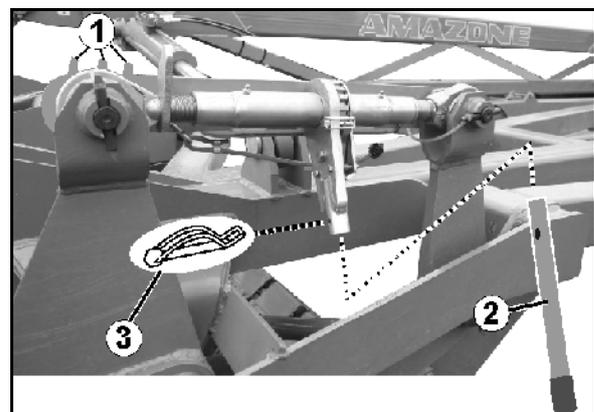

Fig. 57
### **Centaur Super**, Fig. 57
The scale (Fig. 57/1) helps you to set the spindles to the same length.
2. Secure the hand lever (Fig. 57/2) with lynch pin (Fig. 57) to the ratchet (Fig. 57).